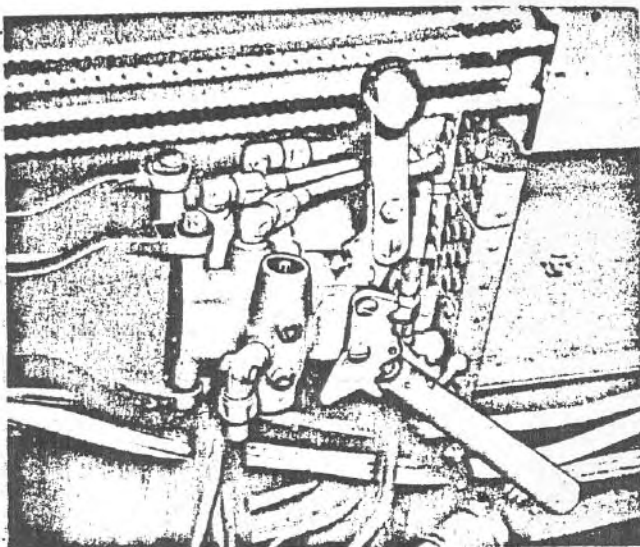

Figure 2—Hydraulic Selector Valve Assembly
(a) **LANDING GEAR OPERATION.**—The landing gear control handle marked "LANDING GEAR" is located at the left side of the seat (figure 2). To raise the landing gear, raise the handle to the "UP" position and operate the hydraulic pump by squeezing the trigger switch below the grip on the stick. To lower the landing gear, place the control handle in the "DOWN" position and squeeze the trigger switch as before.
(5) **WING FLAP CONTROL.**—The flap control is situated directly above the landing gear control, and is marked "FLAPS" (See figure 2).